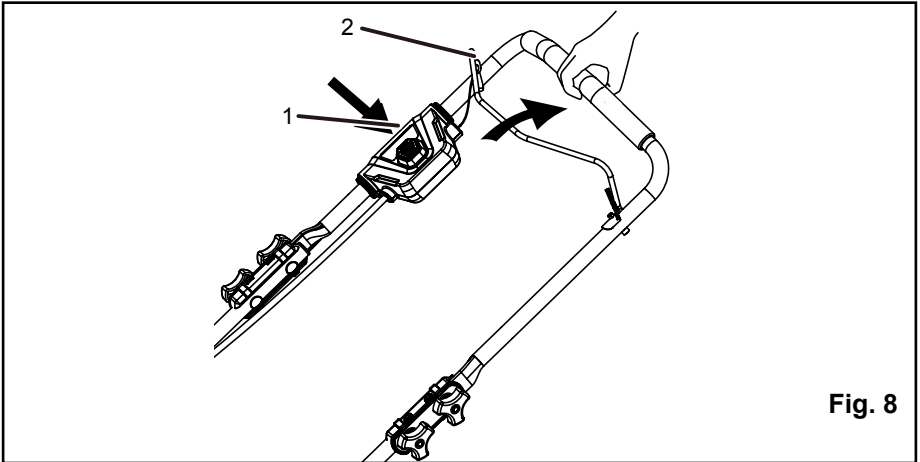

Fig. 8
## STARTING/STOPPING THE MOWER (See Figure 8)
- Press and hold the safety lock-out button (1). (See figure 8. A)
- Pull the bail lever (2) upward to the handle to start the mower and release the button. (See figure 8. B)